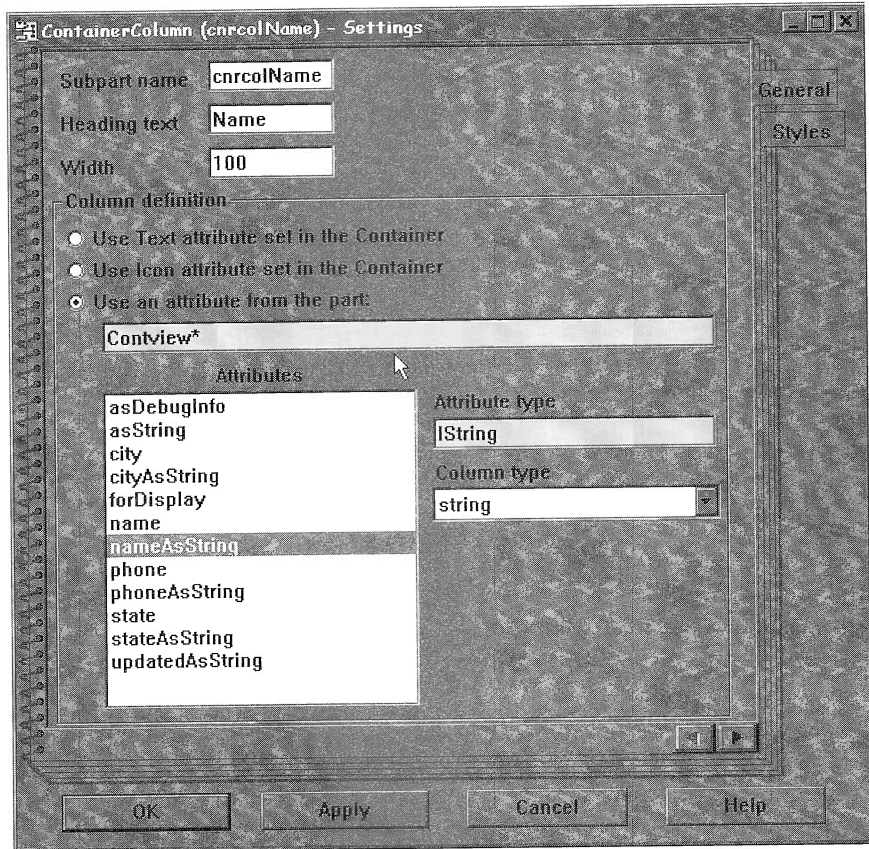

Figure 201: Settings notebook for the container column
- ☐ For each container column, open the settings notebook and complete the following as shown in Figure 201.